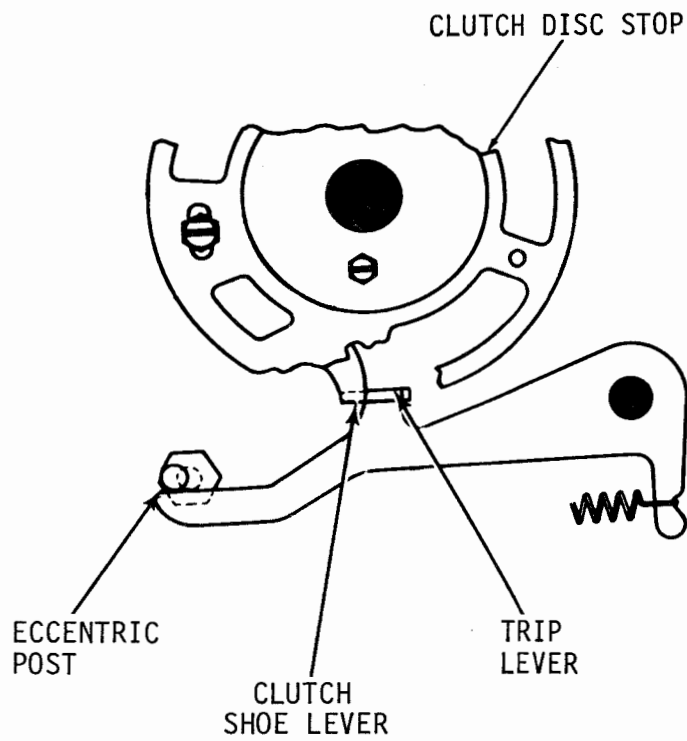
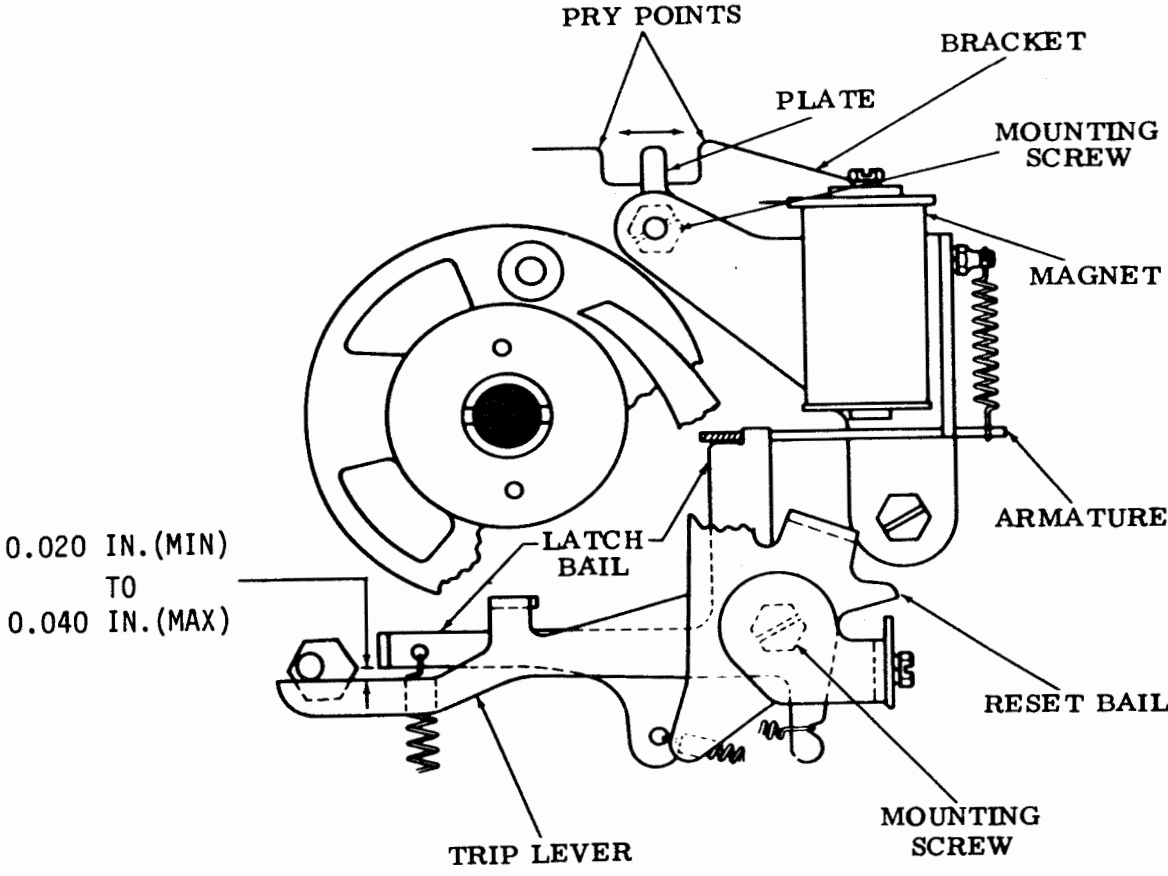

Figure 6-158. Clutch Trip Lever
Figure 6-159. Magnet Plate
(3) Clutch Trip Lever. Adjust clutch trip lever as follows:
- (a) Refer to figure 6-158.
(4) Magnet Plate. Adjust magnet plate as follows:
- (a) Refer to figure 6-159.